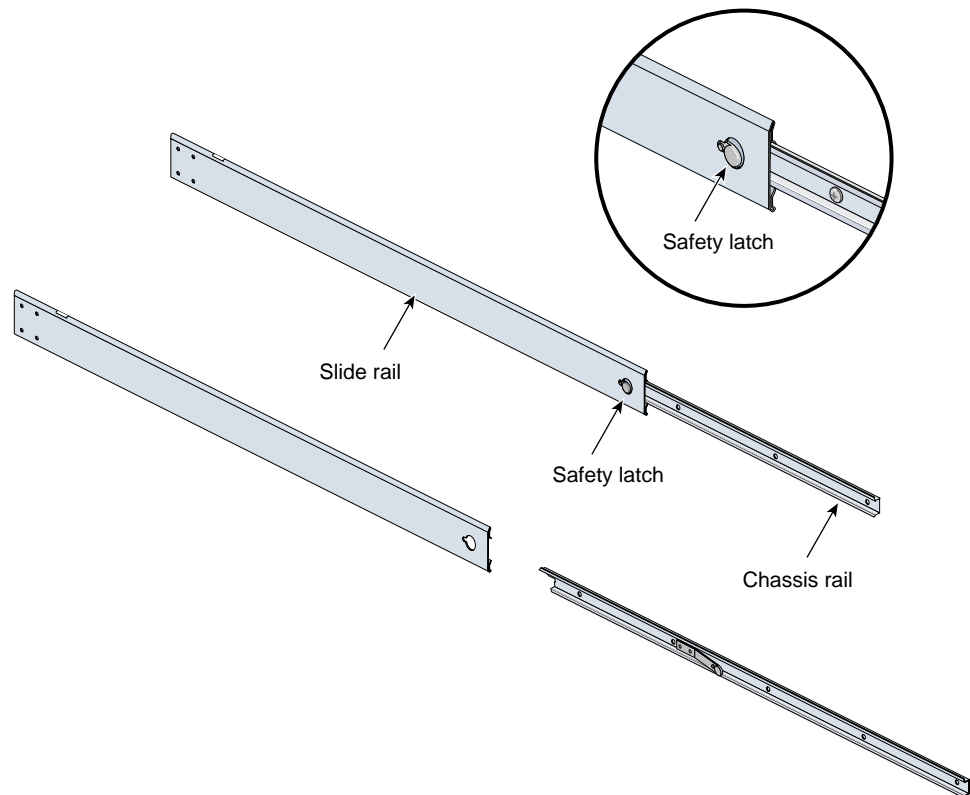

Figure B-1 Removing the Chassis Rail from the Slide Rail
3. Press the safety latch and remove the chassis rail from the slide rail, as shown in Figure B-1.